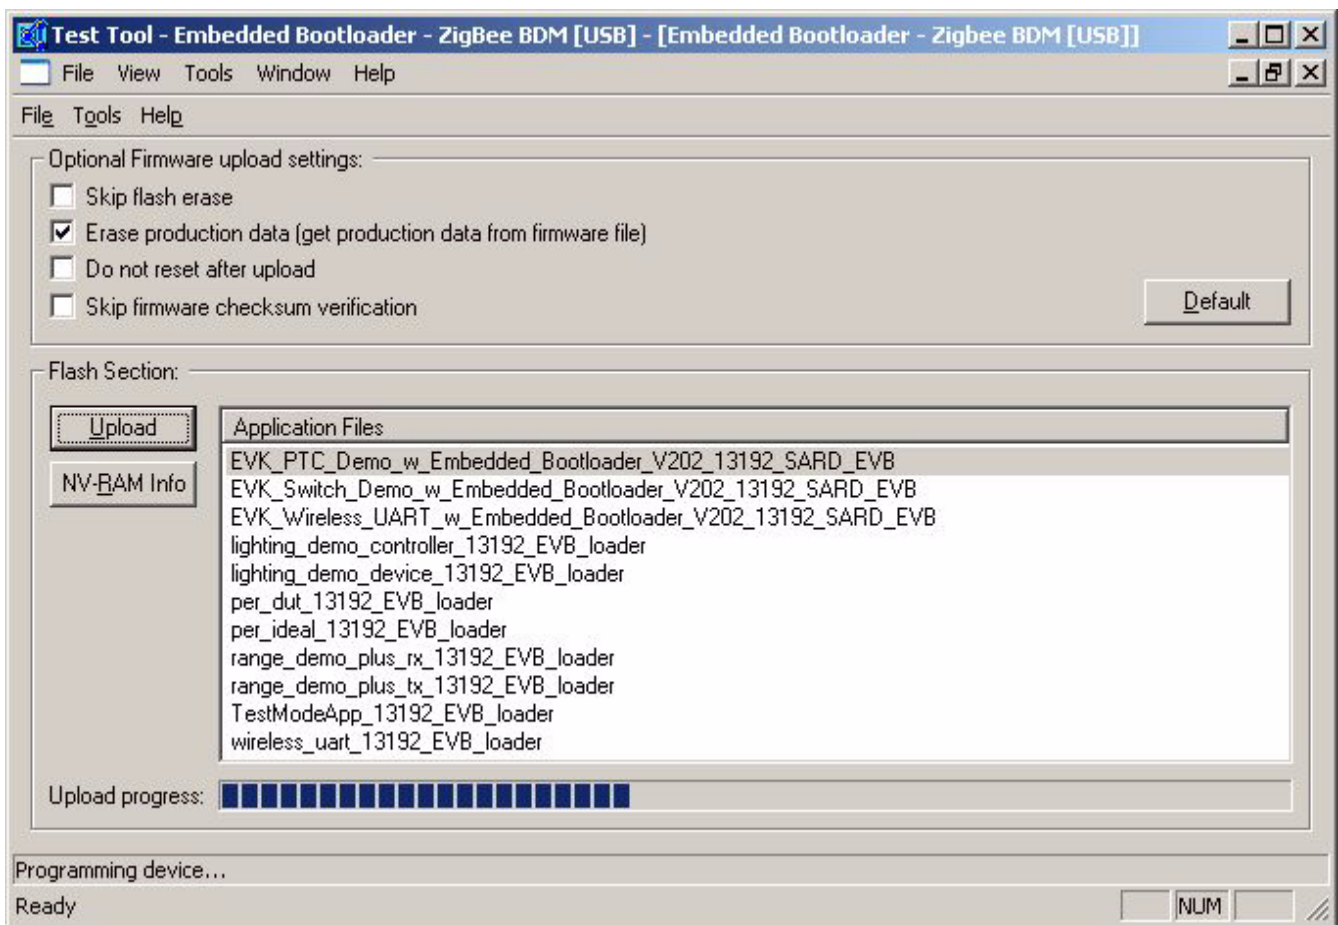

Figure 12. Test Tool (Embedded Bootloader Window)
11. Choose the Erase Production Data (get production data from firmware) option located in the Optional Firmware upload settings area of the Embedded Bootloader window as shown in Figure 12. The functional values are restored with the values found in the application file.
12. In the Flash Section of the Embedded Bootloader window, select the appropriate application to run then click on the Upload button. Users can also click on the lower of the two Tools options from the menu as shown in Figure 12, then click on Upload and browse for the appropriate application to run. The application will then begin to upload. Wait for the application to be completely uploaded to the board before performing the next step.